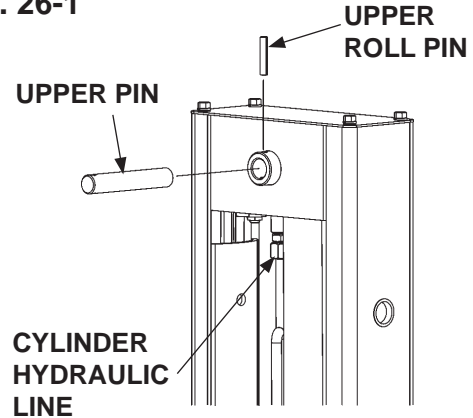

FIG. 26-2
10. Disconnect hydraulic line to cylinder. Hold cylinder firmly and remove upper roll pin and upper pin (FIG. 26-2).